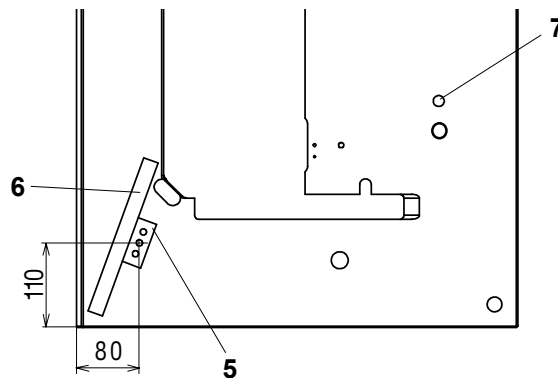

Fig. 8
Remove the supporting pin from the table top (Fig. 8, pos. 7), insert the cover caps (7) into the holes.